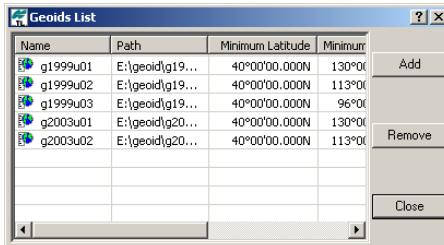

Figure 3-18. Geoids List
4. Click **Close** (Figure 3-18).